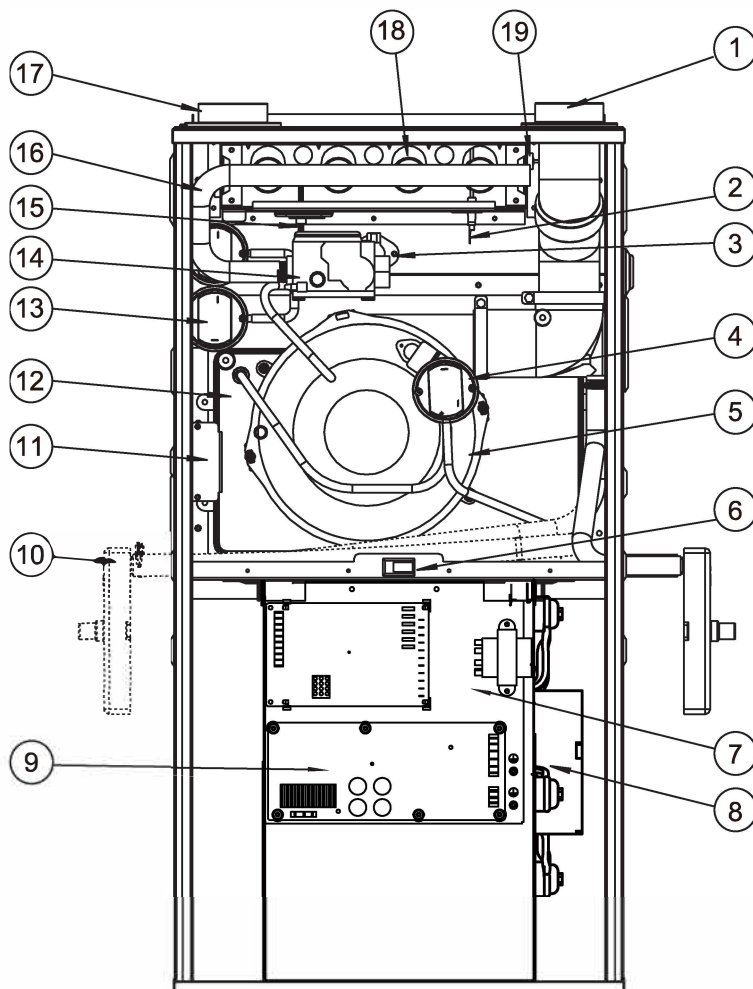

Fig. 14-1 Component Identification
- Parts are available from your distributor. (See Fig . 14-1)